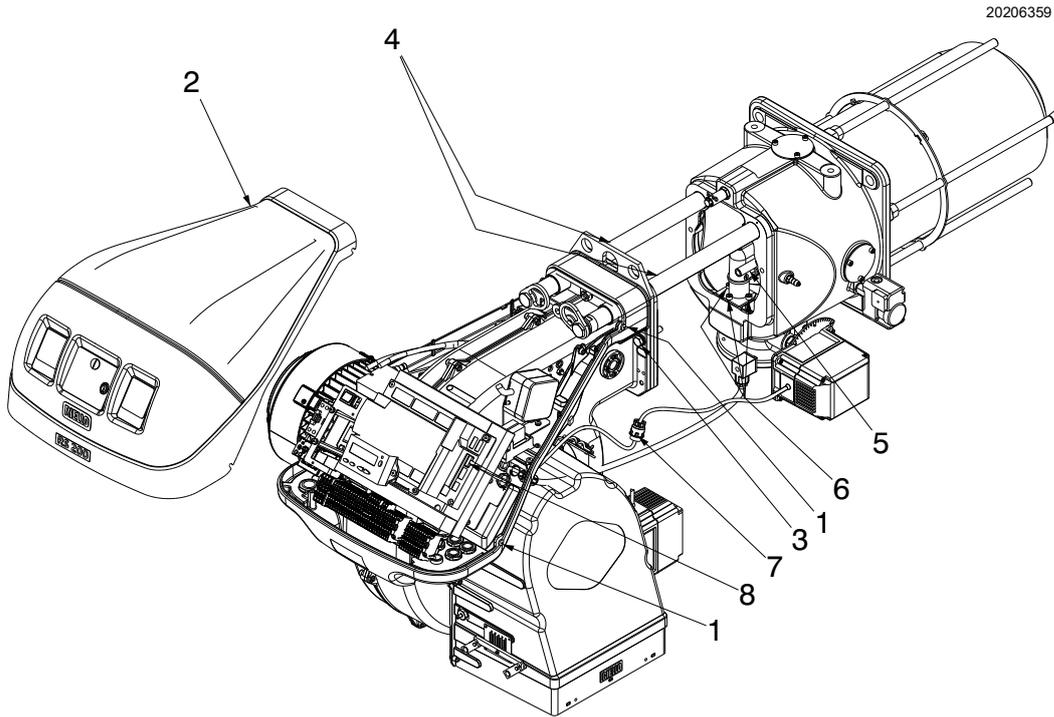

Fig. 41
Make sure that the gas outlet holes for the start-up, on the combustion head distributor, are free of dirt or rust deposits. If in doubt, disassemble the elbow (Fig. 41 on page 54).
- Loosen the 4 screws 1)(Fig. 41) and remove the cover 2);